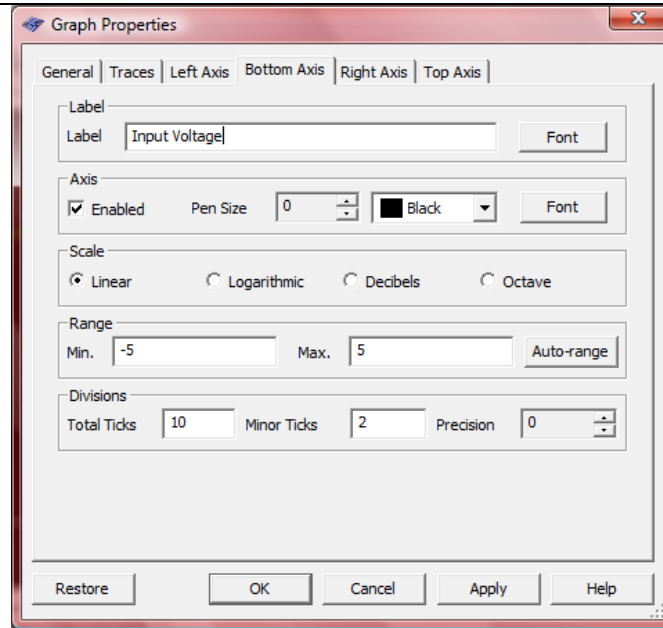
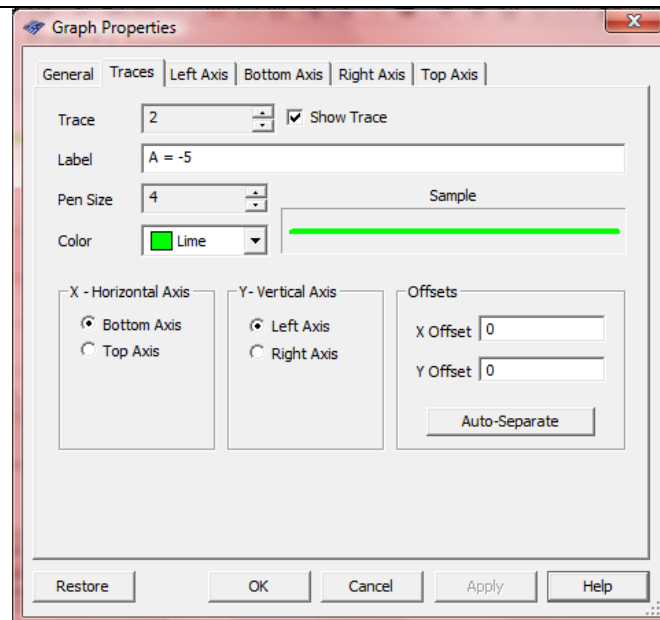

Figure 4.1.13 Renaming the Bottom Axis in the Graph Properties window.
Figure 4.1.14 Adjusting the properties of Trace 2.
Now let's click on the Properties button, , located at the top of the page. This brings up the window shown in Fig. 4.1.13 on the next page. Under the Bottom Axis tab, change the Label to "Input Voltage (V)", and under the Left Axis tab, change the Label to "Output Voltage (V)." Additionally, under the Traces tab, you can alter the properties of the traces. Use the Trace field with the up and down arrow to select a specific trace to alter. For the green trace (Trace 2), change the label to " $A = -5$ " and increase Pen Size to 4 (see Fig. 4.1.14 on the next page). For the red trace (Trace 1), change the label to " $A = -8$ ", and increase the Pen Size to 4.